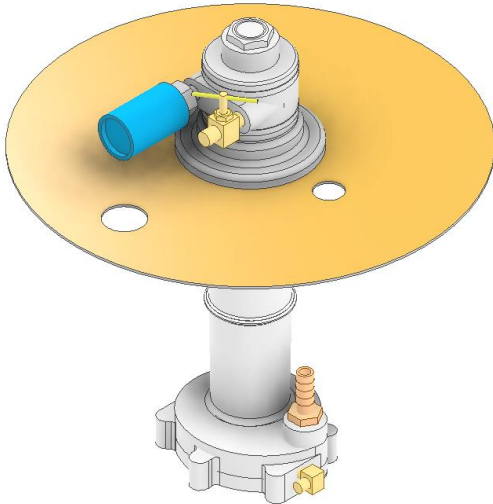

Figure 12
1. Air-driven ink pump (*Figure 12*).